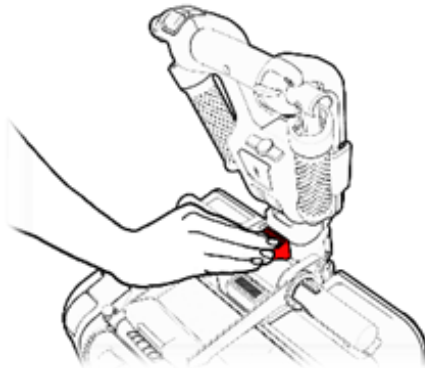

Figure 6
4. Press the red button (see Figure 6, step 1) and tilt it away from the main ATTO body (see Figure 6, step 2).